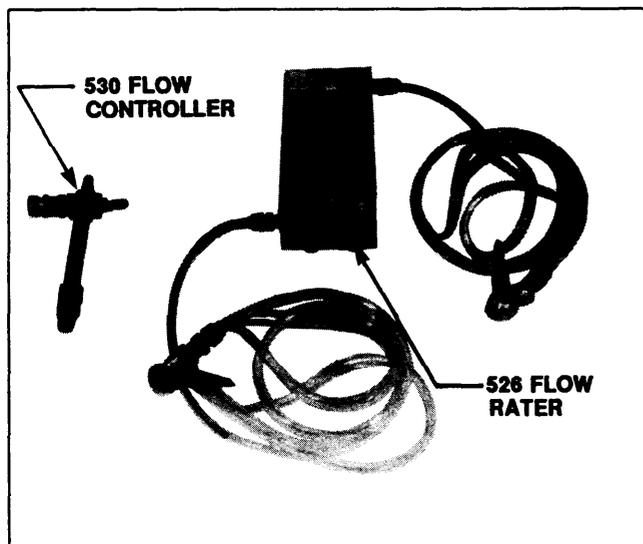

Fig. 2 - Model 526 Flow Rater & Model 530 Flow Controller
- (c) Mark Products Model 526 Portable Flow Rater (Fig. 2)
- (e) Mark Products Model 530 Helium Flow Controller (Fig. 2).